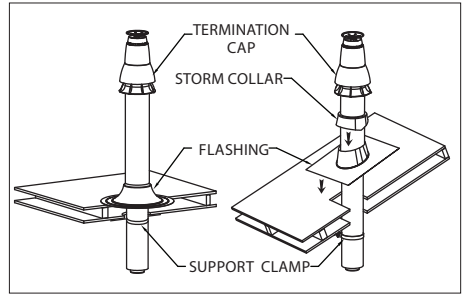

Figure 17
Vertical Concentric (Fig.17)
5. Attach flashing to roof. (**Fig.17**)